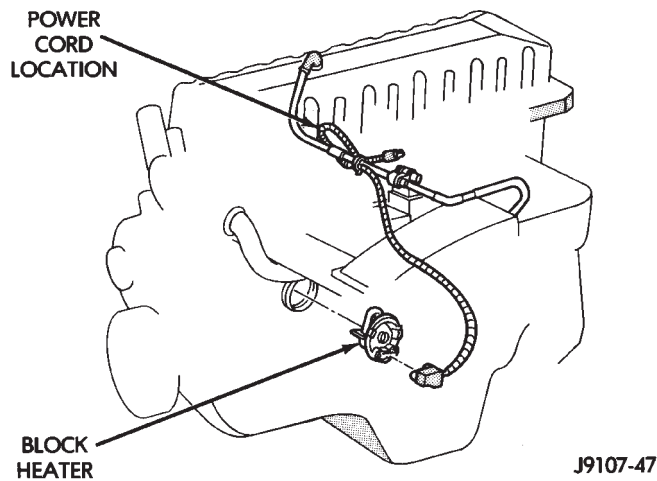

Fig. 1 Block Heater—4.0L Engine
An optional engine block heater (Figs. 1 or 2) is available with for all models. The heater is equipped with a power cord. The cord is attached to an engine compartment component with tie-straps. The heater warms the engine providing easier engine starting and faster warm-up in low temperatures. The heater is mounted in a core hole of the engine cylinder block in place of a freeze plug with the heating element immersed in engine coolant. Connect power cord to a grounded 110-120 volt AC electrical outlet with a
(5) Remove power cord from block heater (Figs. 1 or 2).
(6) Loosen screw at center of block heater. Remove heater assembly.